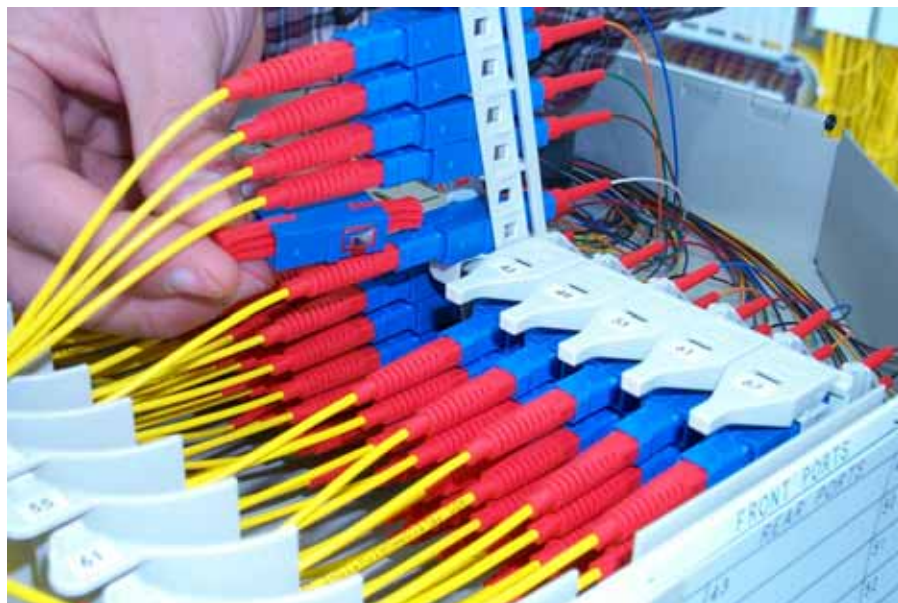

Figure 78. Positioning New Adapter for Installation
9. Position the new adapter for installation as shown in Figure 78.